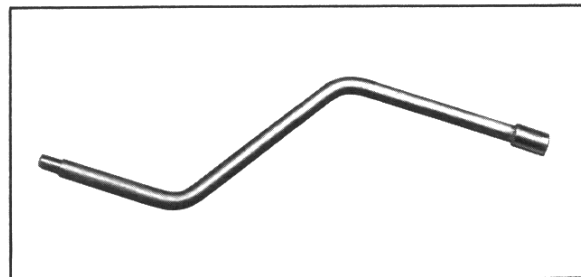

Figure 1-14
1.4.1 Racking Handle (Figures 1-14, 1-15, 1-16)